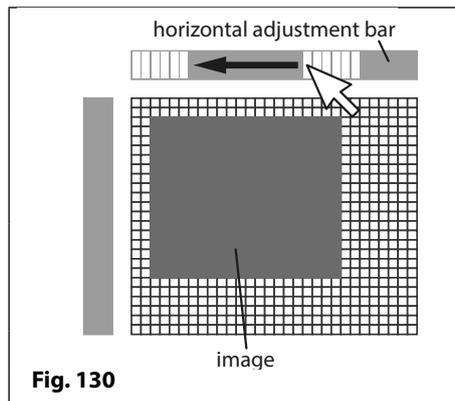

Fig. 130
2. Click and hold down on the left mouse button whilst moving the cursor left and the individual pixels will highlight (in white) one by one along the top bar, as shown in **Fig.130**.